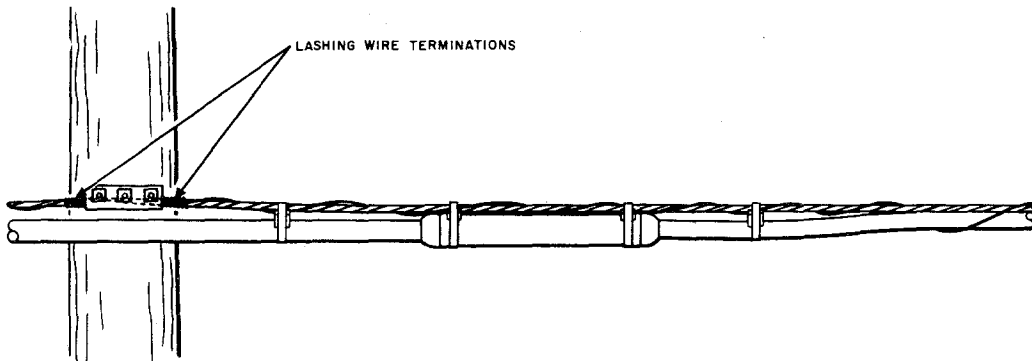

Fig. 11—Lashing Wire Terminations at Splice Locations
5.08 Where there is to be a splice, the lashing wire should be lashed around the strand only for about a distance of 24 inches from the suspension bolt. Sufficient excess wire should be left to permit permanent termination after splicing work is completed. See Fig. 11.